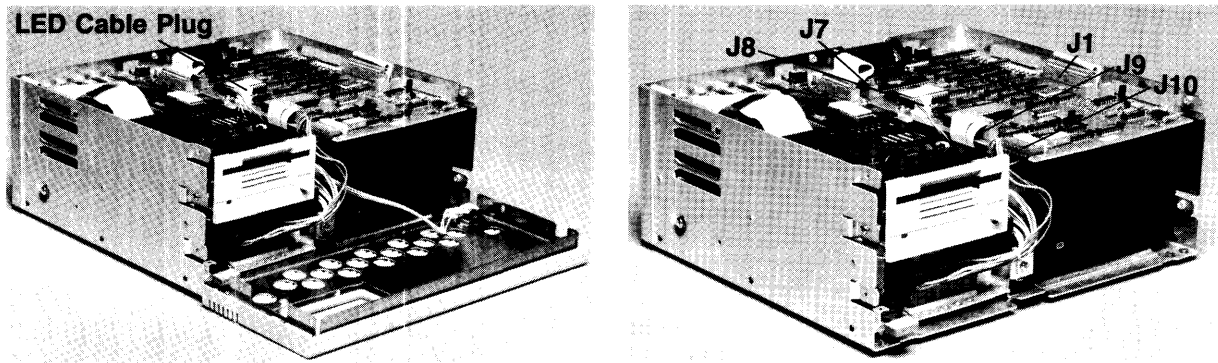

Figure 5-3. Front Panel Assembly Removal
1. Remove the four-pin LED cable plug from A1J8. See Figure 5-3.